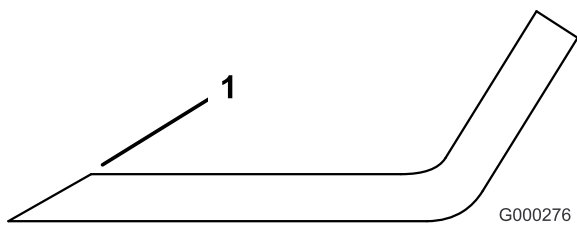

Figure 90
1. Use a file to sharpen the cutting edge at both ends of the blade (Figure 90). Maintain the original angle. The blade retains its balance if the same amount of material is removed from both cutting edges.